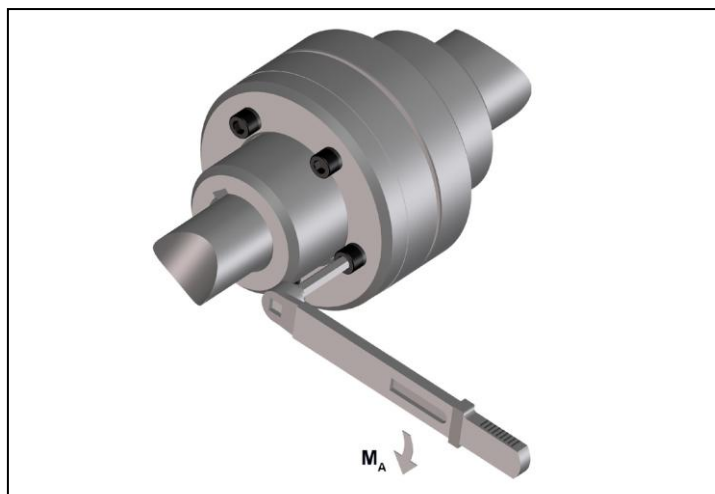

Fig. 13
- Tighten up the claw ring threaded joints with the tightening torque  $M_A$  stipulated in table 8 (Figure 13).